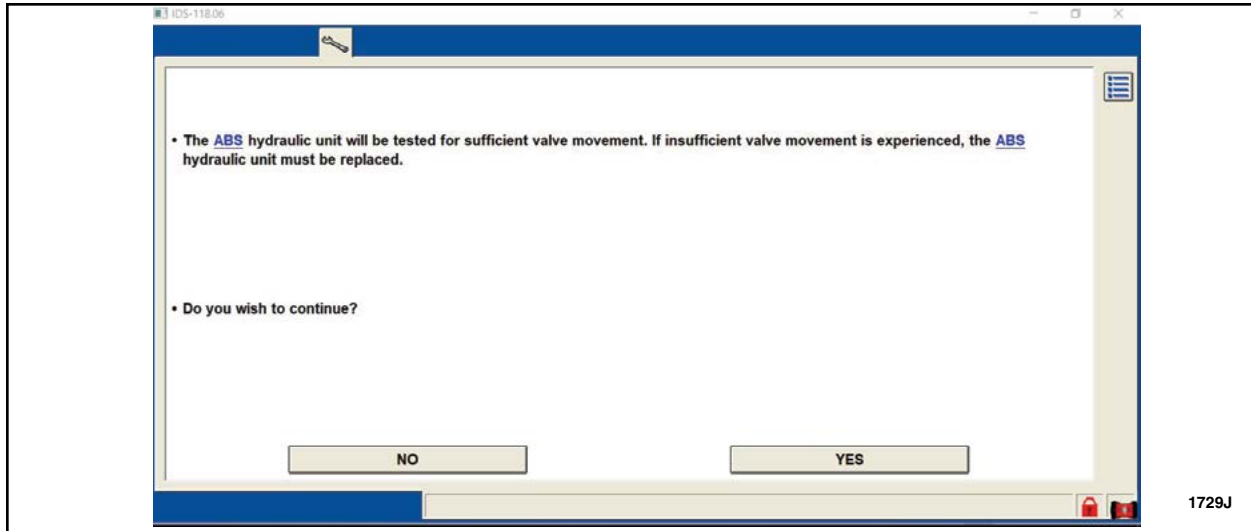

FIGURE 2
7. Follow the on screen prompts to complete the procedure. See Figures 2 through 11, for screenshots of the process, and applicable notes.